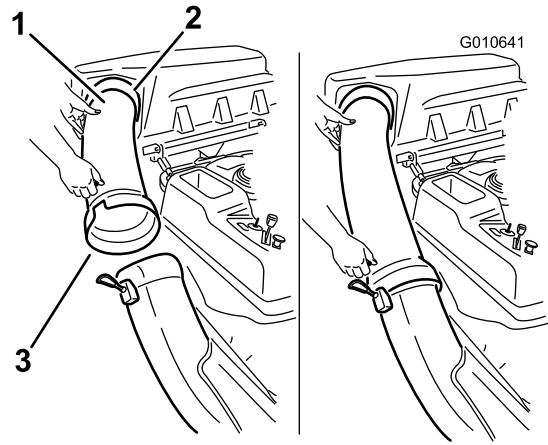

Figure 29
1. Slide the curved end of the discharge tube into the opening in the bagger top (Figure 29).